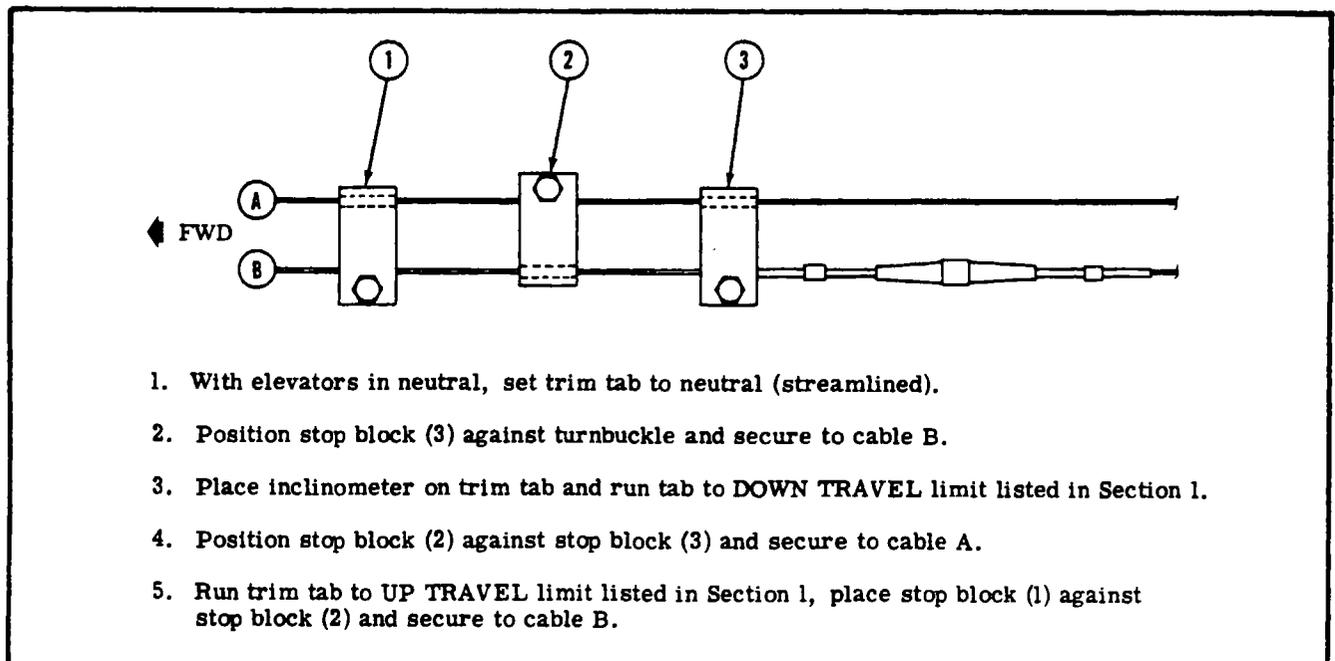

Figure 9-3. Elevator Trim Tab Travel Adjustment
- g. Rotate actuator screw in or out as required to place tab up with a maximum of 2° overtravel, with actuator screw connected to push-pull tube (12).
i. Position stop blocks (16) and adjust as illustrated in figure 9-3 to limit travel to the degree specified in Section 1.